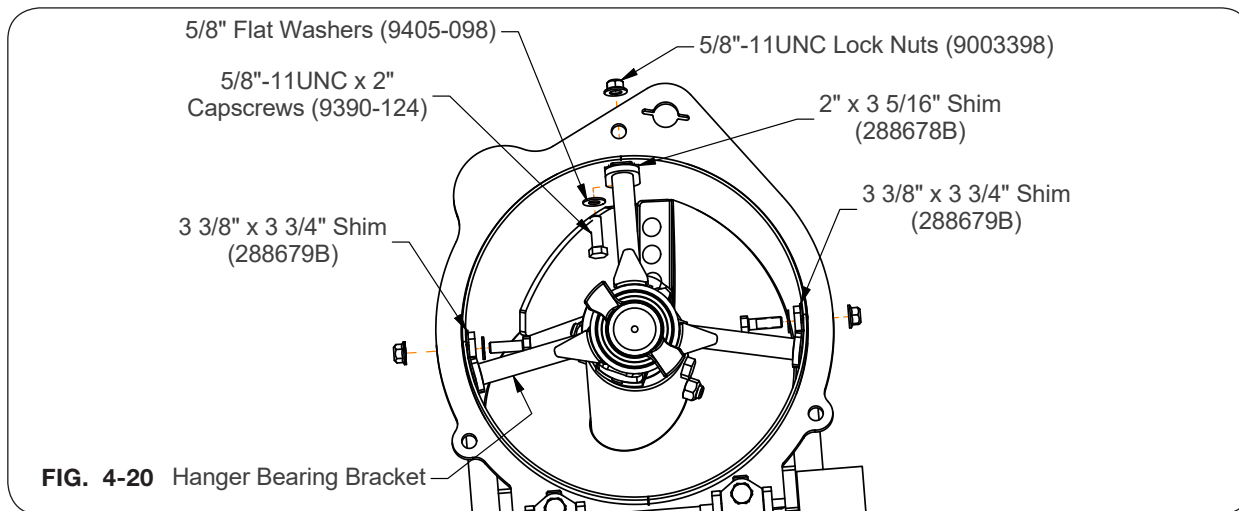

FIG. 4-20 Hanger Bearing Bracket
- Loosely secure the hanger bearing using one 3" x 3 9/16" left-hand shim (291342B), one 3" x 3 9/16" right-hand shim (291343B), three 5/8"-11UNC x 2" capscrews (9390-124), three 5/8" flat washers (9405-098), and three 5/8"-11UNC lock nuts (9003398) as shown in FIG. 4-20.